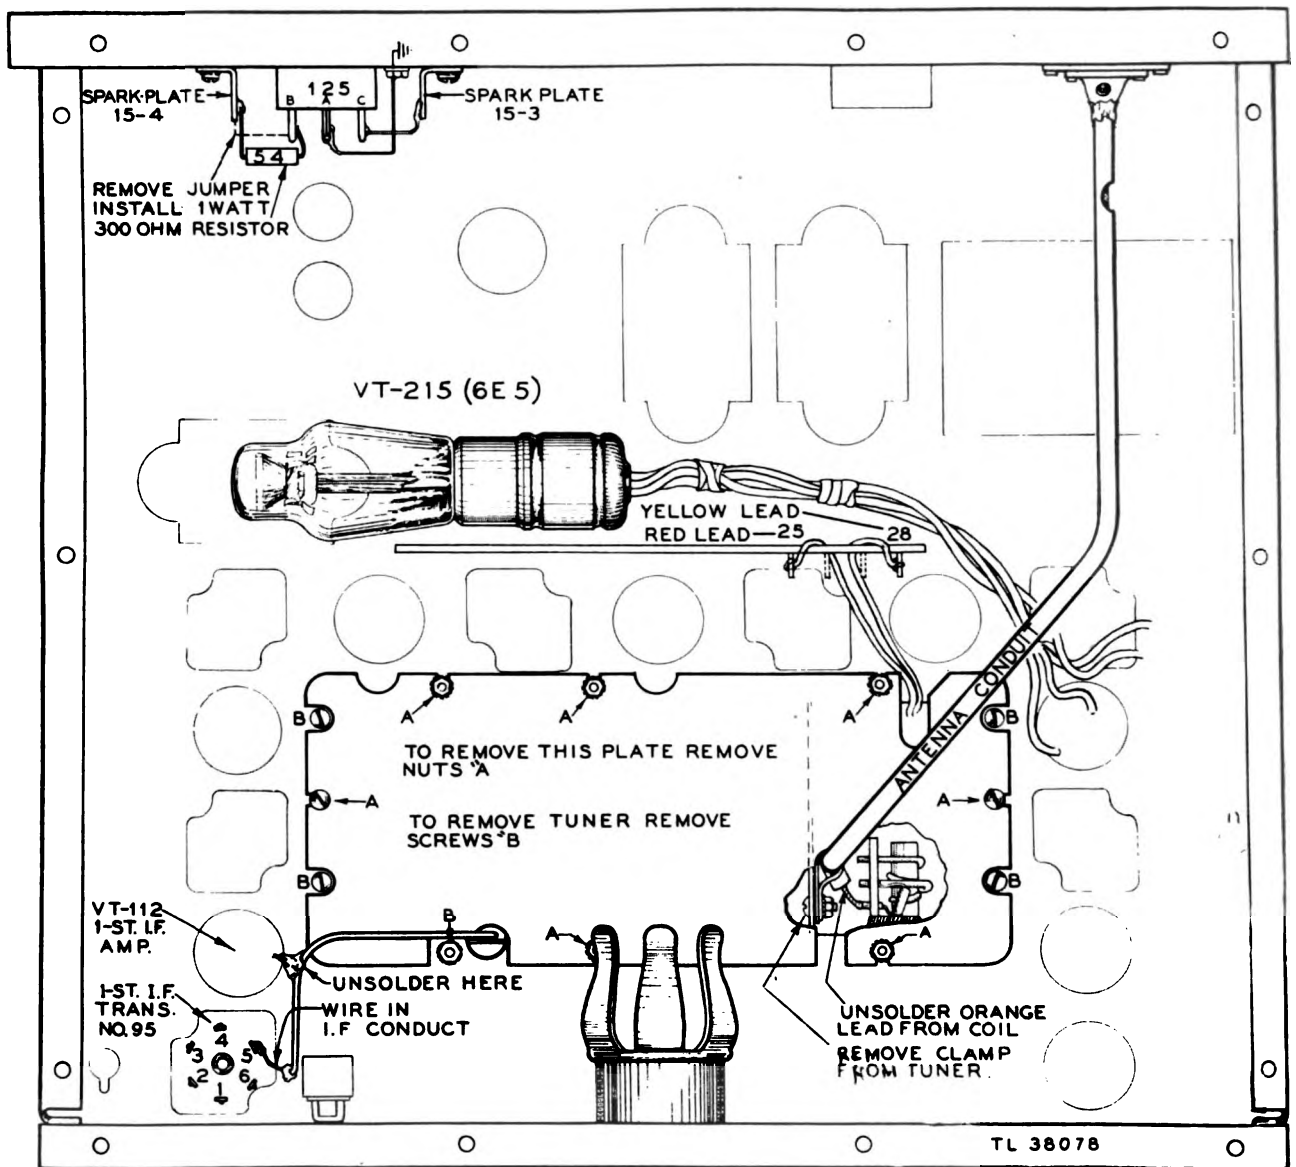

Figure 165. Diagram showing method of replacing r-f tuning head.
- d. Remove tuning indicator Tube VT-215, and place it to rear of chassis (fig. 165).
- e. Remove the metal plate on the bottom of the tuner head by taking off the nuts and screws indicated as A in figure 165.
ceiver chassis by taking out screws B (fig. 165) and lifting the receiver free of the tuning head.